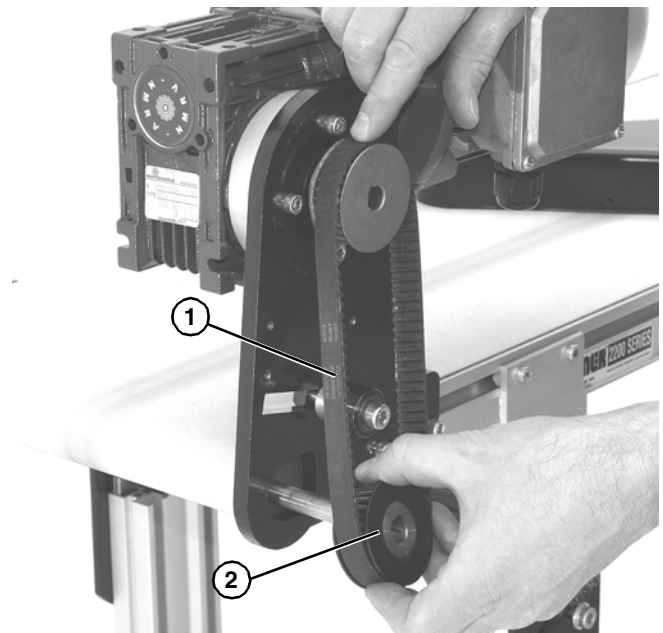

Figure 24
3. Remove timing belt (**Figure 24, item 1**).
*If timing belt does not slide over pulley flange, loosen driven pulley set screws (**Figure 24, item 2**) and remove pulley with belt ((**Figure 24, item 1**). For re-installation, see steps 7 and 8 on page 12.*